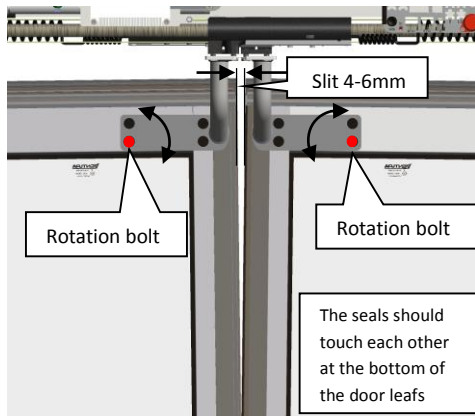

Figure 1.4: Gap between door leaves old style rail
4.	Check if a gap of approximately 4-6mm at the top between the door leaves is visible (without pressure). The door leaves should touch each other at the bottom in closed position (See Figure 1.4).